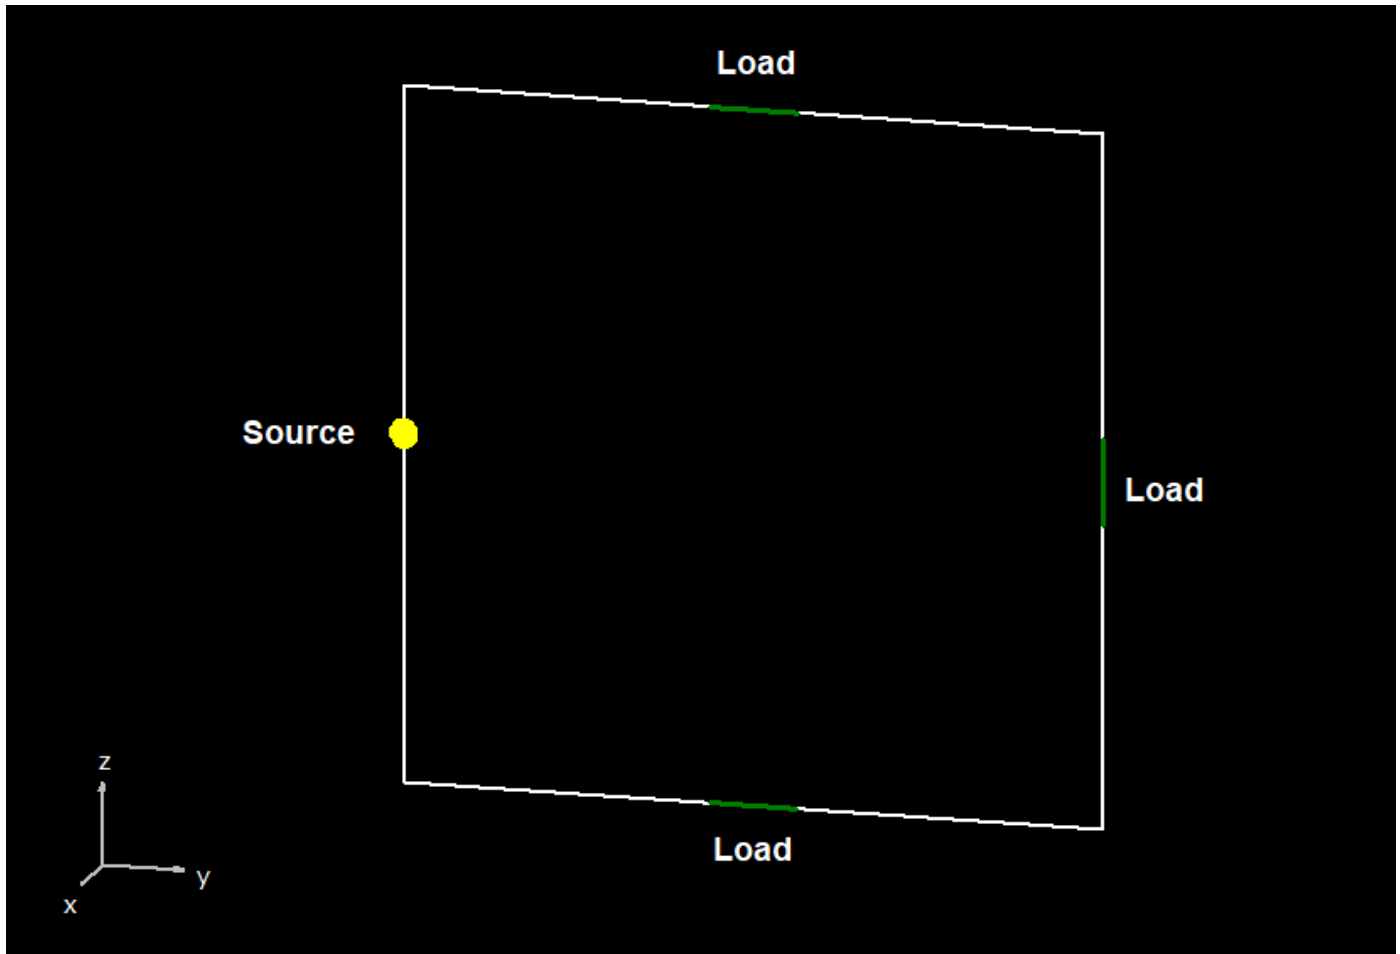

Fig. 1: Source and load indicators on wires in the workspace.
- **Loads** are indicated by a **green-highlighted wire segment** (see Fig. 1)